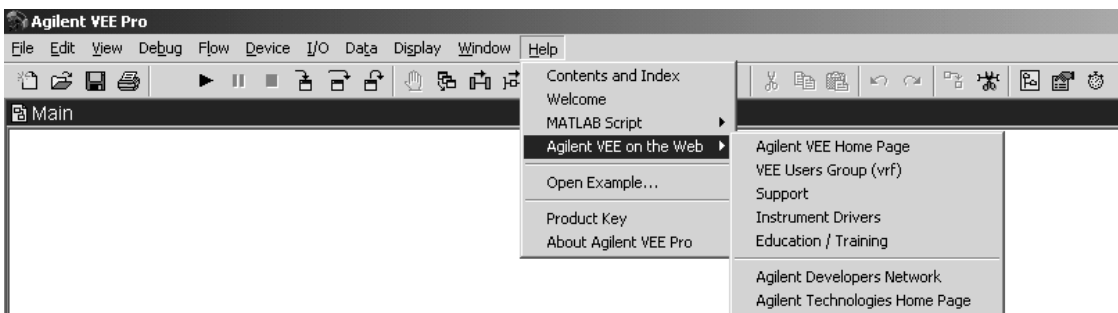

Figure I-4. Contacting Product Support in VEE Help Menu
- *For Current Support Information:* While connected to the network, in VEE, click **Help** ⇒ **Agilent VEE on the Web**. Chapter Figure I-4., “Contacting Product Support in VEE Help Menu.” shows how to select support in VEE.